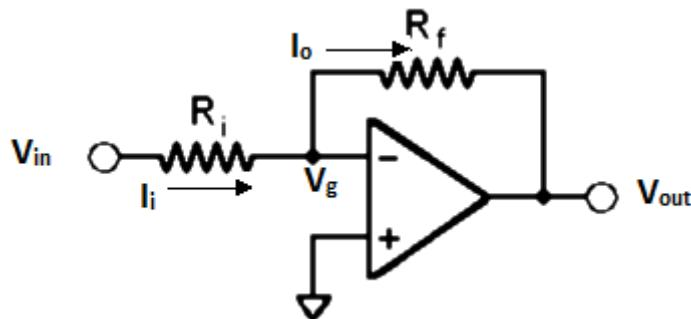

Figure 3.2.1 Inverting amplifier
**3.2.1 Inverting amplifier:** The circuit diagram for an inverting amplifier is as shown in Figure 3.2.1.